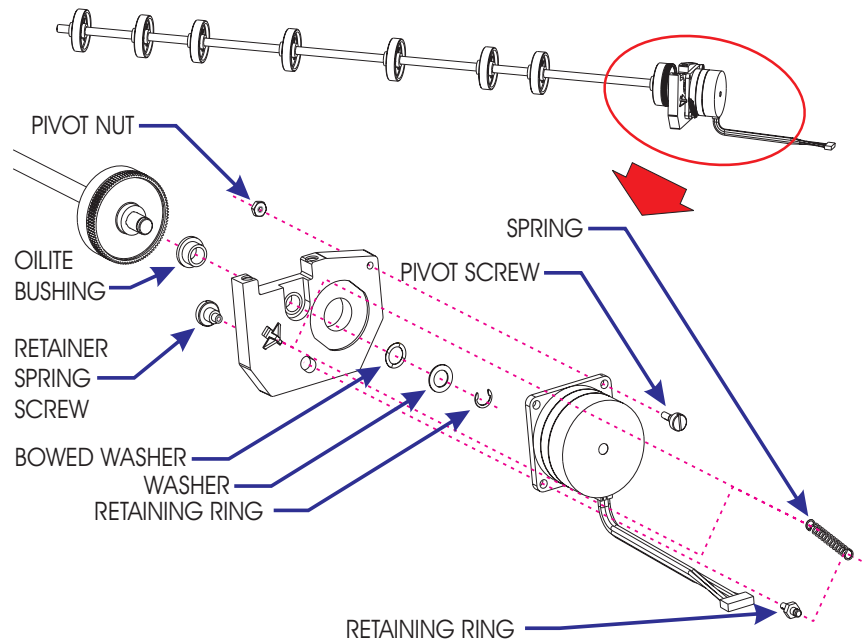

Figure 5-24. Lower Drive Assembly and Stepper Motor Assembly.
1. Once the Inner Platen Parts have been removed, remove the Stepper Motor from the Stepper Motor Bracket by unhooking the Extension Spring from the post on the Stepper Motor Bracket. See Figure 5-24.